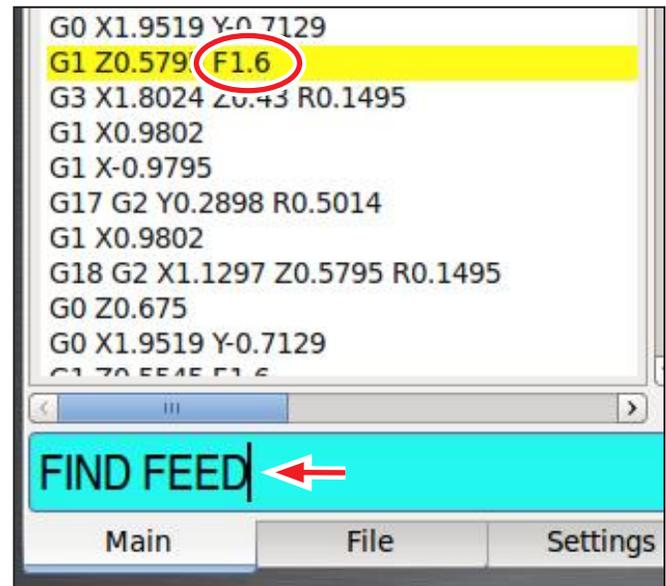

Figure 5.11
- *FIND FEED*: Searches for instances of the actual word *Feed* in the G-code and any *F* G-code command (see **Figure 5.11**)